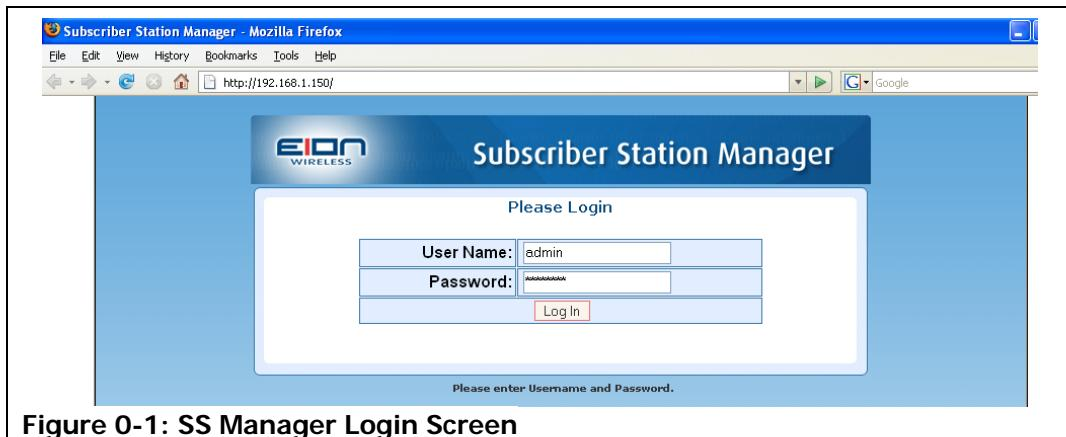

Figure 0-1: SS Manager Login Screen
4. The BS Manager Login Screen (Figure 0-1) will appear. Log in with the following: